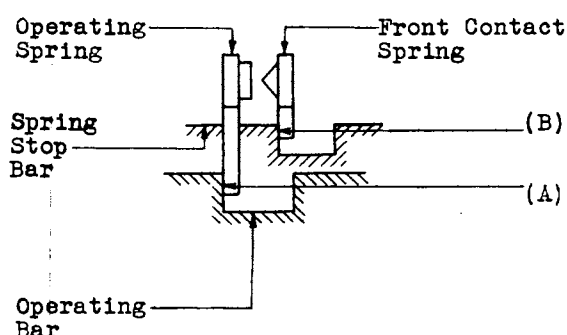

Fig. 11
- 1 - Fig. 11 (A) - Operating Spring Tang against the stud or side of the notch in the operating bar nearer the cam roller shall be
- 2 - Fig. 11 (B) - Front Contact Spring Tang against the side of the notch in the spring stop bar nearer the cam roller shall be